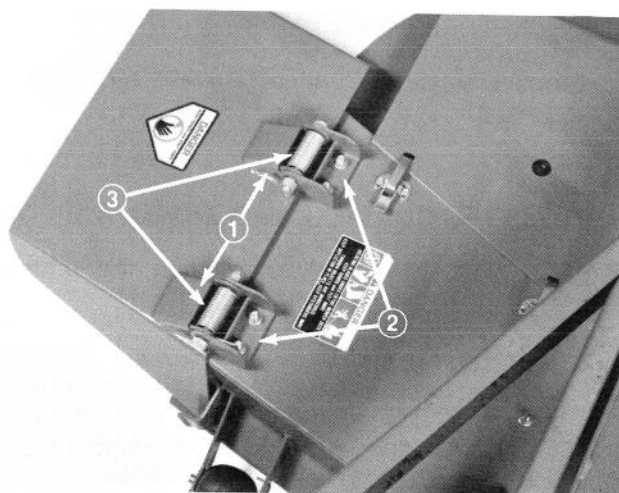

Figure 30
- 2. Remove two capscrews, locknuts, and springs securing deflector mounts to pivot brackets (Fig. 30).
- 3. To remove the pivot brackets, remove carriage bolts and locknuts (Fig. 30).